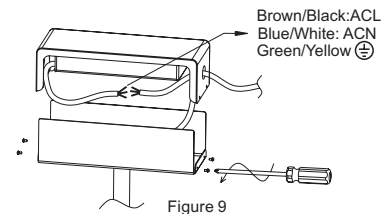

Figure 9
9. Connect the led fixture to local power with necessary connector protection measures. (Figure 9)